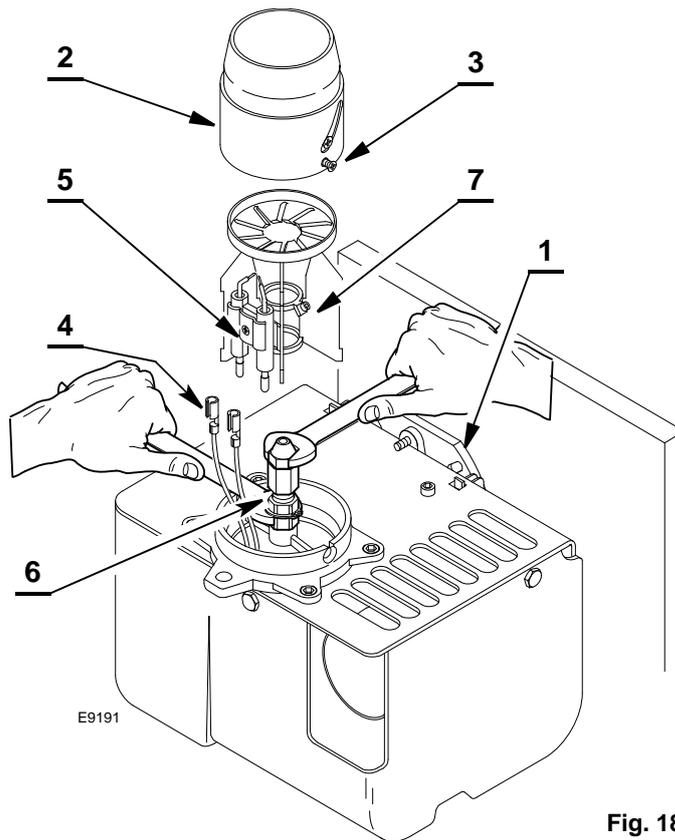

Fig. 18
- Loosen the screw (1, Fig. 18).
- Tighten the screw (1).
- Loosen the screw (2, Fig. 18).
- Tighten the screw (2).